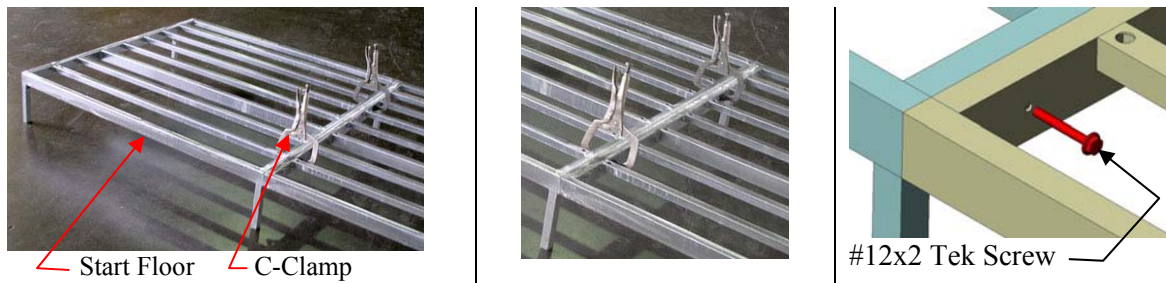

Figure 4
2. Arrange floors starting with the Start Floor (four or six-legs) on the far left. Attach a Center Floor (two or three legs) to the first Start Floor as shown in (**figure 4**) using 2" Tek Screws at the pre-drilled holes. Use the same method to attach all the remaining floors with two or three-legs.